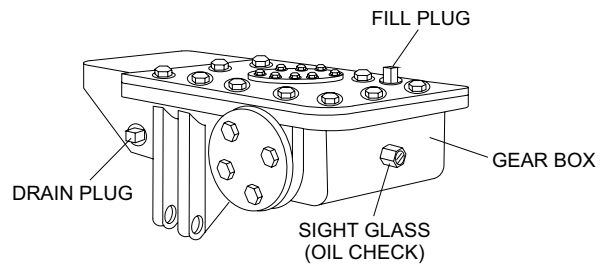

Figure 7. Gearbox Oil Plugs/Sight Glass
1. Check the gearbox oil level in both gearboxes by viewing the sight glass at the rear of the gearbox. See Figure 7.
2. The oil level of the gear box should be at the half-way point of the sight glass (Figure 7). The gear box oil capacity is 1 U.S. Gallon, (3.79 liters). If additional oil is required, unscrew the oil fill plug located on top of the gearbox, and refill with ISO 220 A GMA GR 5 EP oil.